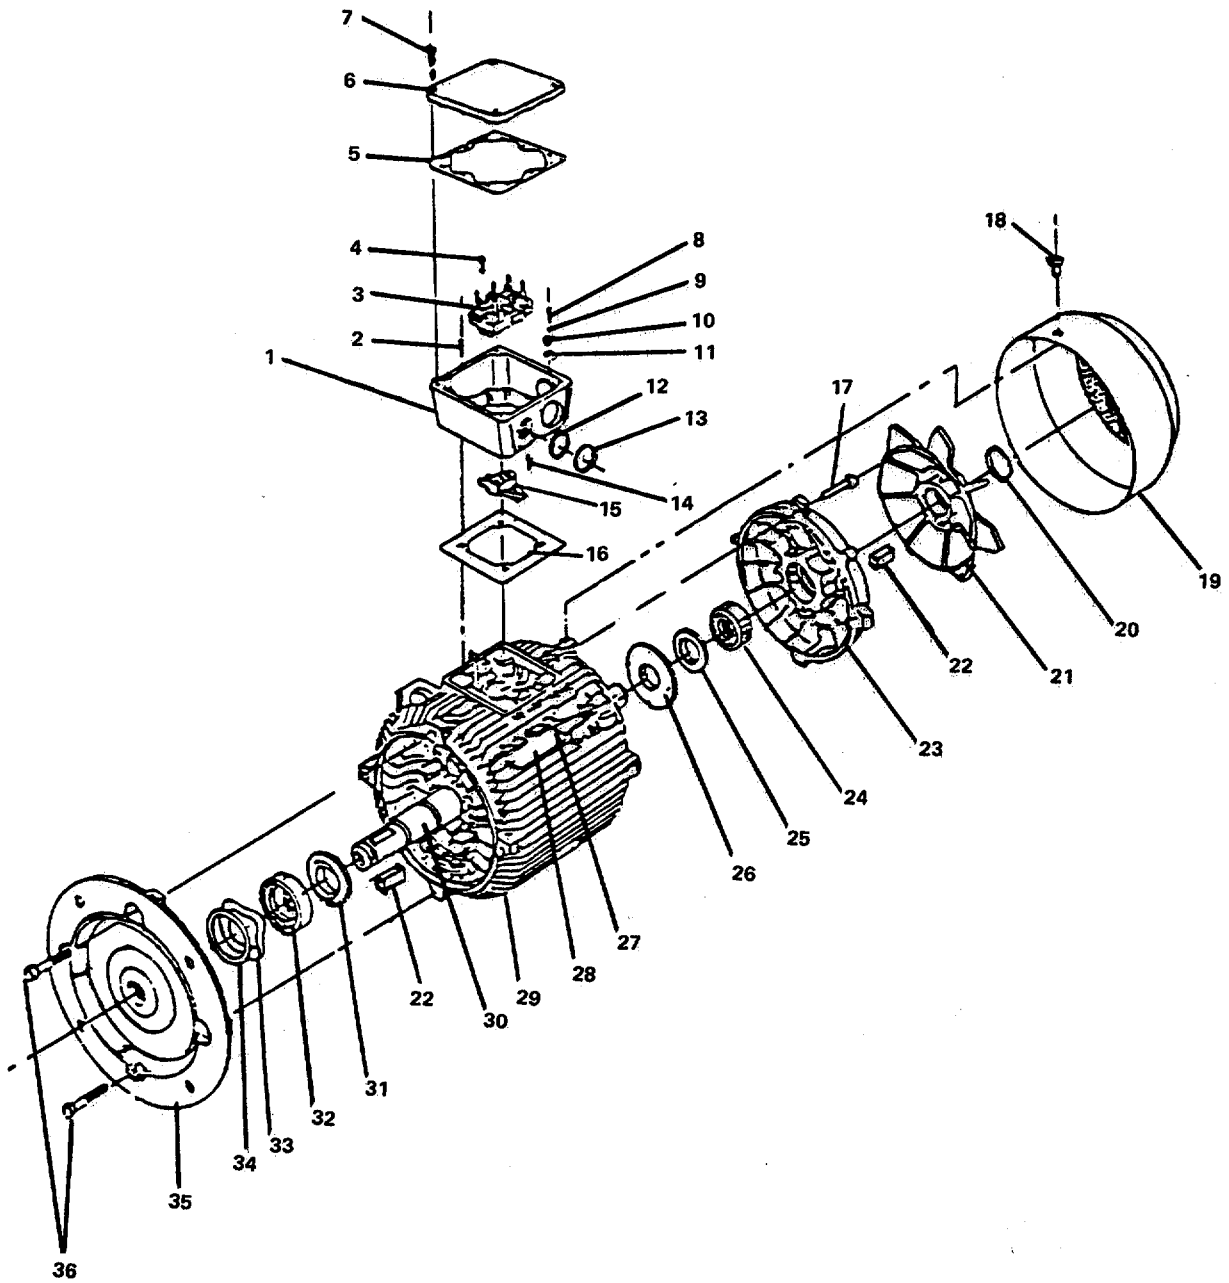

FIGURE 4-1. Electric Motor Assembly.
**4-12. Repair Electric Motor Assembly. (Figure 4-1)**